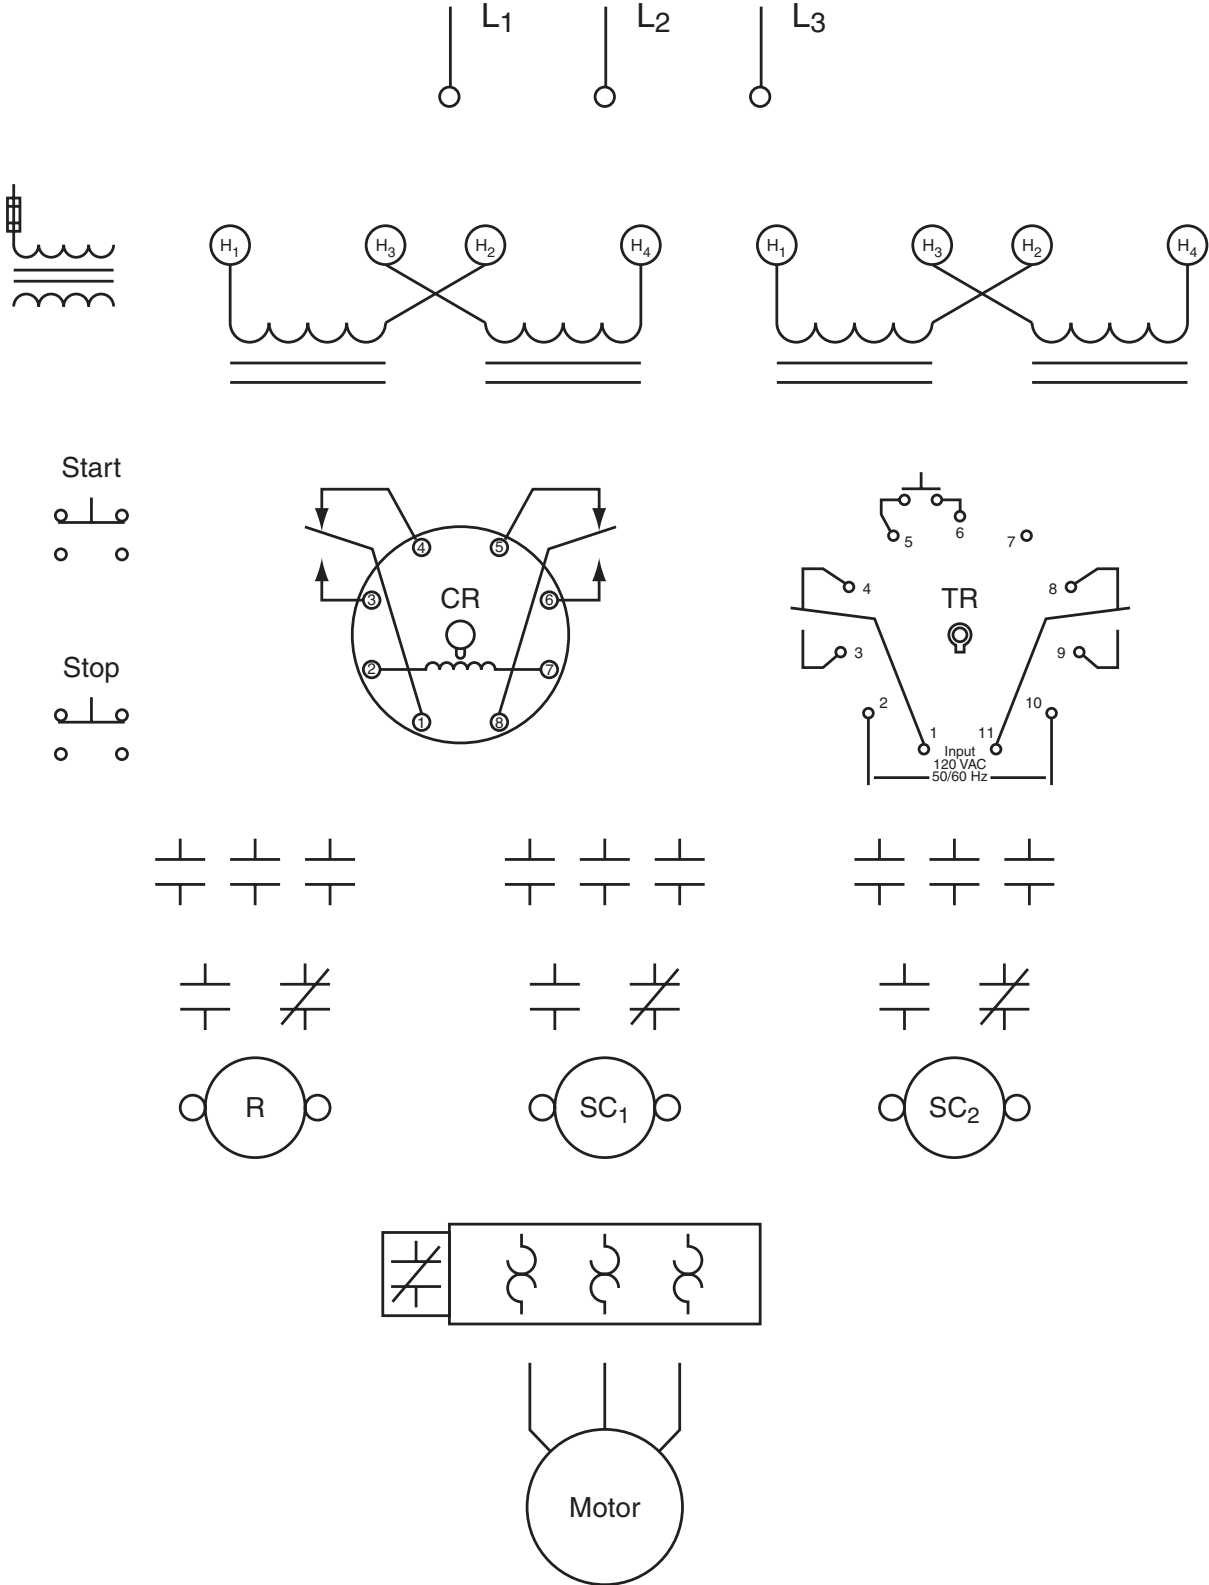

Figure 41-3 Developing a wiring diagram.
3. Place corresponding wire numbers beside the components shown in Figure 41-3. Make certain to make the connection between H_2 and H_3 on the high-voltage side of the control transformers.